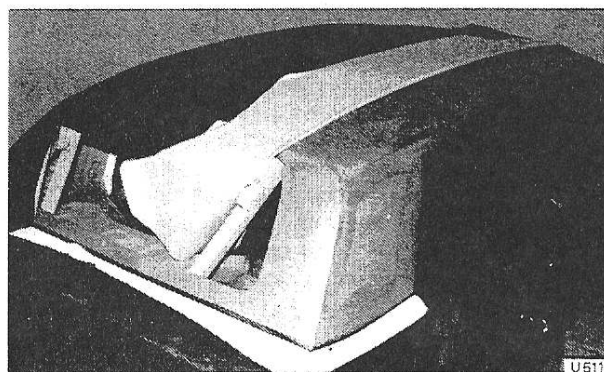

Fig. S97 Centralizing the Everflex, tacking it into position and folding back the sides
16. Place the trim onto the roof, aligning the stitched seams with the pencilled guide lines. Then, tack the trim to the wooden pegs in the rear window aperture (see Fig. S97).
18. Fold back the sides of the Everflex until the stitched seams are visible. Apply Boscoprene Adhesive 2402 to the seams and to the ridged areas of the roof (see Fig. S97); allow to 'flash' dry.